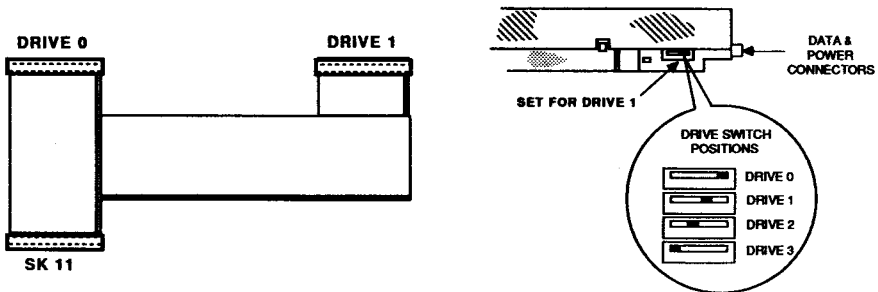

Fig.3 - Dual drive data cable details & configuring the new drive as drive 1
3. Unplug and remove the ribbon-type data cable which connects between connector SK11 on the main printed circuit board and the connector on the rear of the original disc drive 0. Connect the centre connector on the new dual drive cable assembly to drive 0 and the end connector to SK11 (see Fig. 3).
5. Before fitting the new drive, it must be configured as drive 1. To do this, set the small slide switch on the side of the drive to position "1" (see Fig 3).